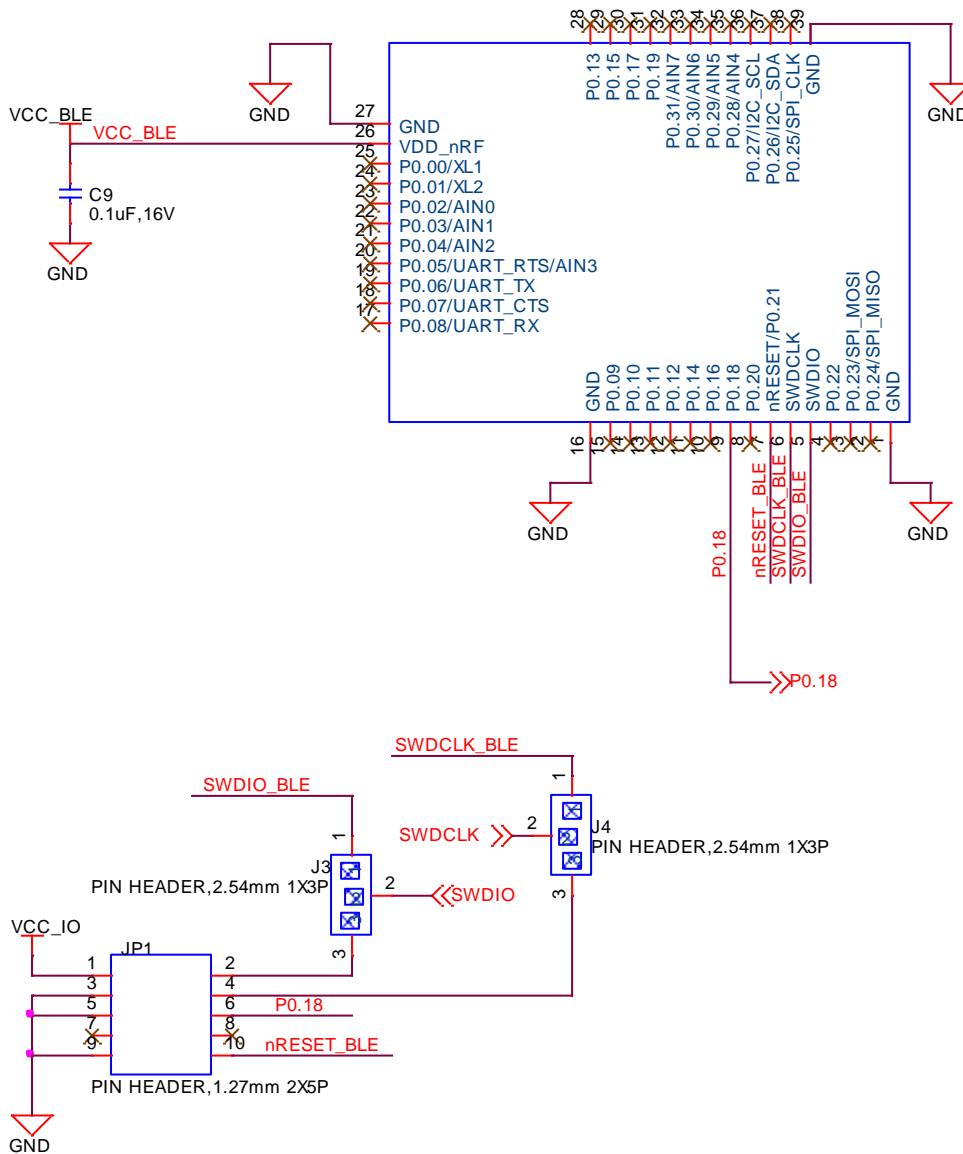

Figure 4: BL652 development board schematic
**Note:** Reference on the BL652 development board schematic (Figure 4) shows the DVK-BL652 development schematic wiring only for the SWD connector and the BL651 module SWD pins.
We recommend that you use SWD (2-wire interface) to handle customer developed BL651 module firmware upgrades. You MUST wire out the SWD (2-wire interface) on your host design (see Figure 4, where four lines should be wired out, namely SWDIO, SWDCLK, GND and VCC).
We recommend that use SWD (2-wire interface) to handle customer developed BL651 module firmware upgrades. You MUST wire out the JTAG (2-wire interface) on your host design (see Figure 4, where four lines should be wired out, namely SWDIO, SWDCLK, GND and VCC).